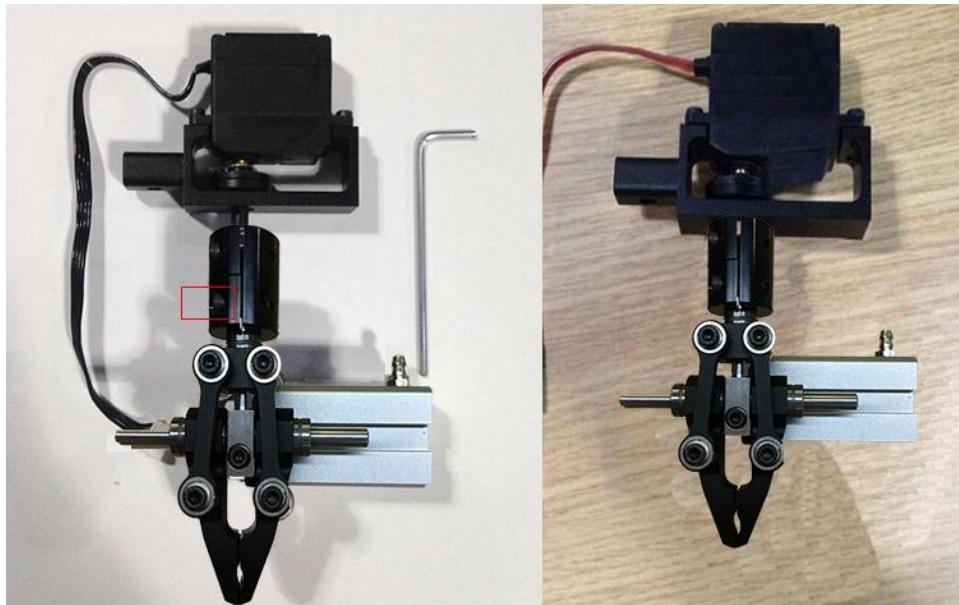

Figure 5.65 Install a gripper kit
**Step 2** Install a gripper kit to the servo with a 2.5mm hexagon wrench, as shown in Figure 5.65.